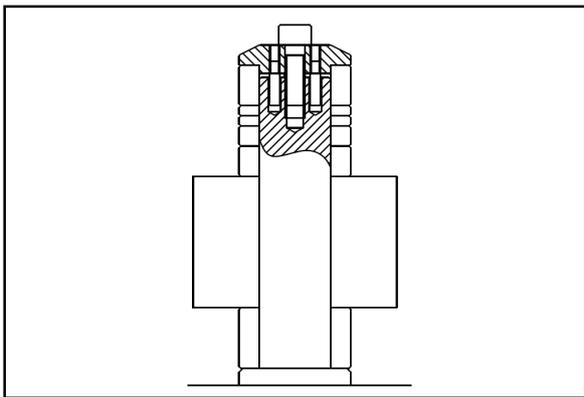

Fig.41
1. **You must install the cutter as shown in Fig.41 and lock the cap screw.**